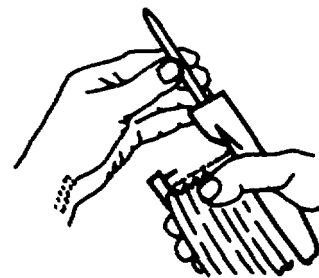

Figure B-5.
- c. Tightly insert the DRAGER Tube in the pump head with the arrow pointing towards the pump (Fig. B-5).
b. Inserting the DRAGER Tube in the Pump. Insert the opened DRAGER Tube in the pump head so that the arrow points towards the pump. The Tube must fit firmly and tightly in the pump head stopper so that no by-pass air can be sucked in (Fig. B-5).